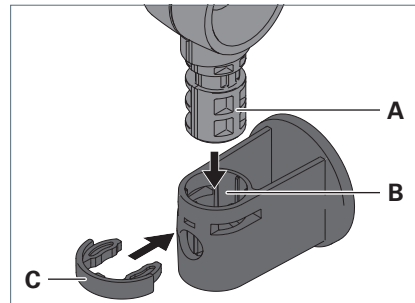

Fig. 6: Mounting a luminaire on an adaptor.
- Insert the stud **A** on the luminaire column into the opening **B** of the adaptor, see Fig. 6.